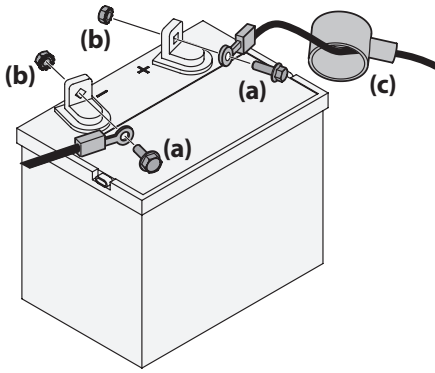

Figure 2-17
1. Remove the plastic cover, if present, from the positive battery terminal and attach the red cable to the positive battery terminal (+) with the bolt (a) and hex nut (b). See Figure 2-17.
2. Remove the plastic cover, if present, from the negative battery terminal and attach the black cable to the negative battery terminal (-) with the bolt (a) and hex nut (b). See Figure 2-17.